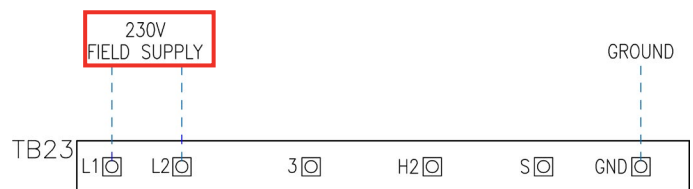

Figure 2
- Connect main power to the evaporator unit at the L1/L2 and GND terminals on the terminal board as shown in the wiring diagram (Figures 2 & 3).